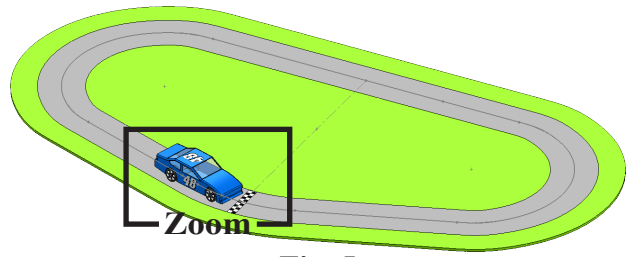

Fig. 5
Step 1. Zoom in around **Car Assembly**, **Fig. 5**.